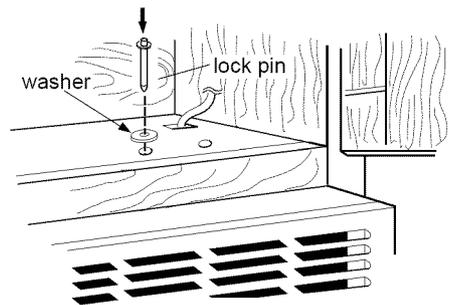

Figure 33
3. Drop the lock pin and washer assembly into hole "N" (left side hole) and push pin down as far as it will go. See Figure 33.